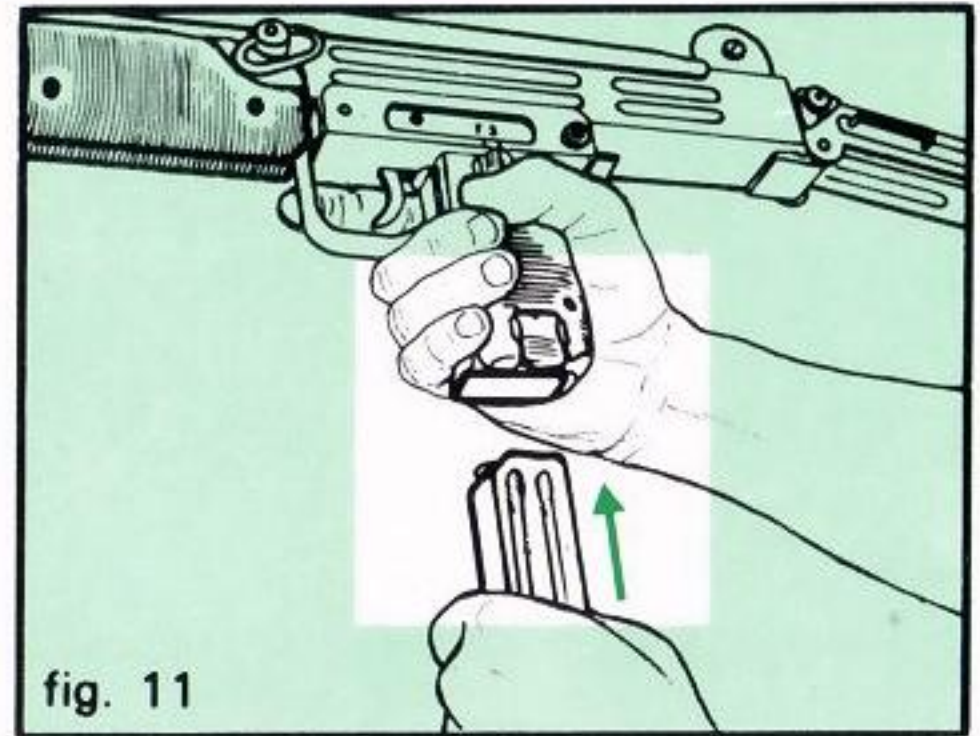

fig. 11
4. Tilt the carbine to the right, and insert the magazine into the pistol grip opening with your left hand. Push until magazine catch snaps into place. (fig. 11).